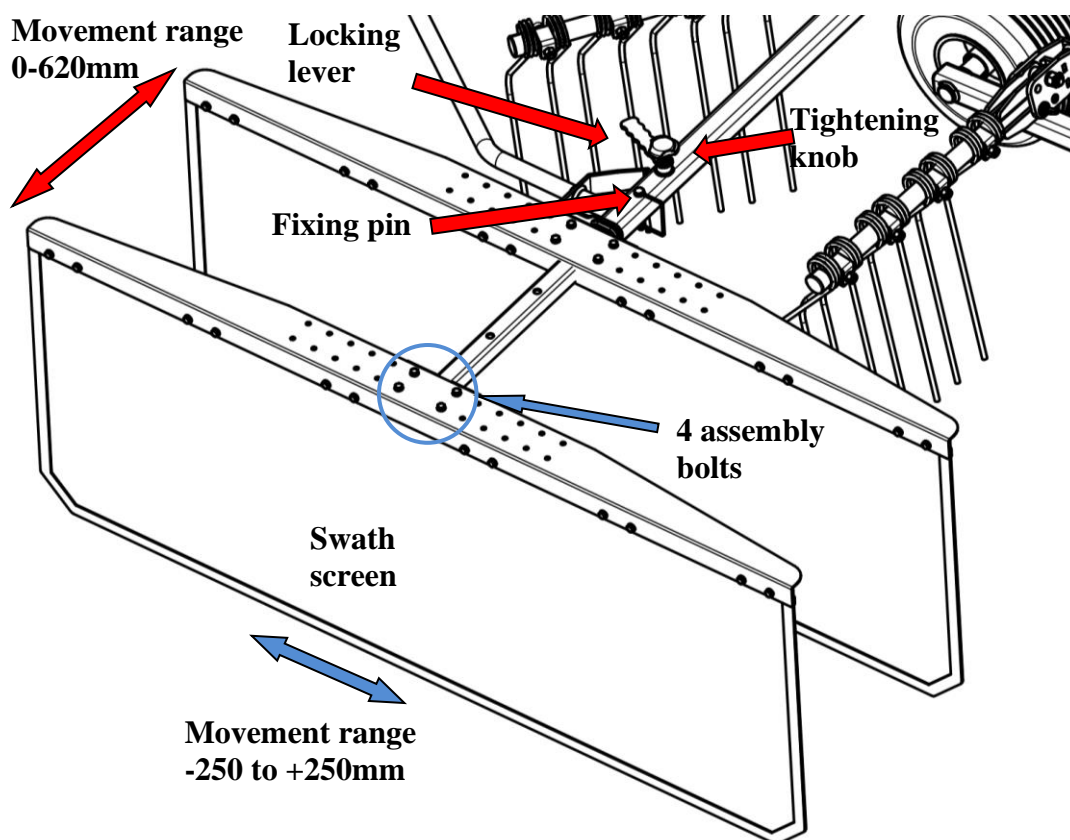

Figure 11. – Swath screen adjustment
- Release the top link arm from the transport lock and connect it to one of its fixed position holes on the headstock. Secure the top link using the linkage pin of category matching the category of the three point linkage on the tractor (see figure 11 above). Secure the linkage pin with a cotter pin. **Note that the slide is only to be used in work.** Use of the slide in transport can cause serious damage to the machine as a result of unnecessary stresses transferred to the main pivot pin. **Always use the correct slot for transport / work.**